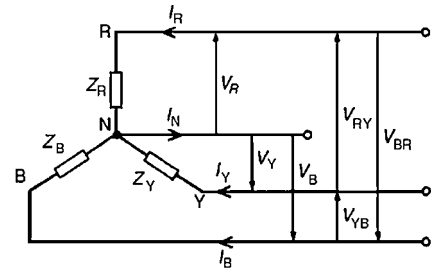

Figure 20.3
- (i) A **star-connected load** is shown in Fig. 20.3 where the three line conductors are each connected to a load and the outlets from the loads are joined together at N to form what is termed the **neutral point** or the **star point**.
- (iv) From Fig. 20.3 it can be seen that the phase currents (generally denoted by I_p) are equal to their respective line currents I_R , I_Y and I_B , i.e. for a star connection: